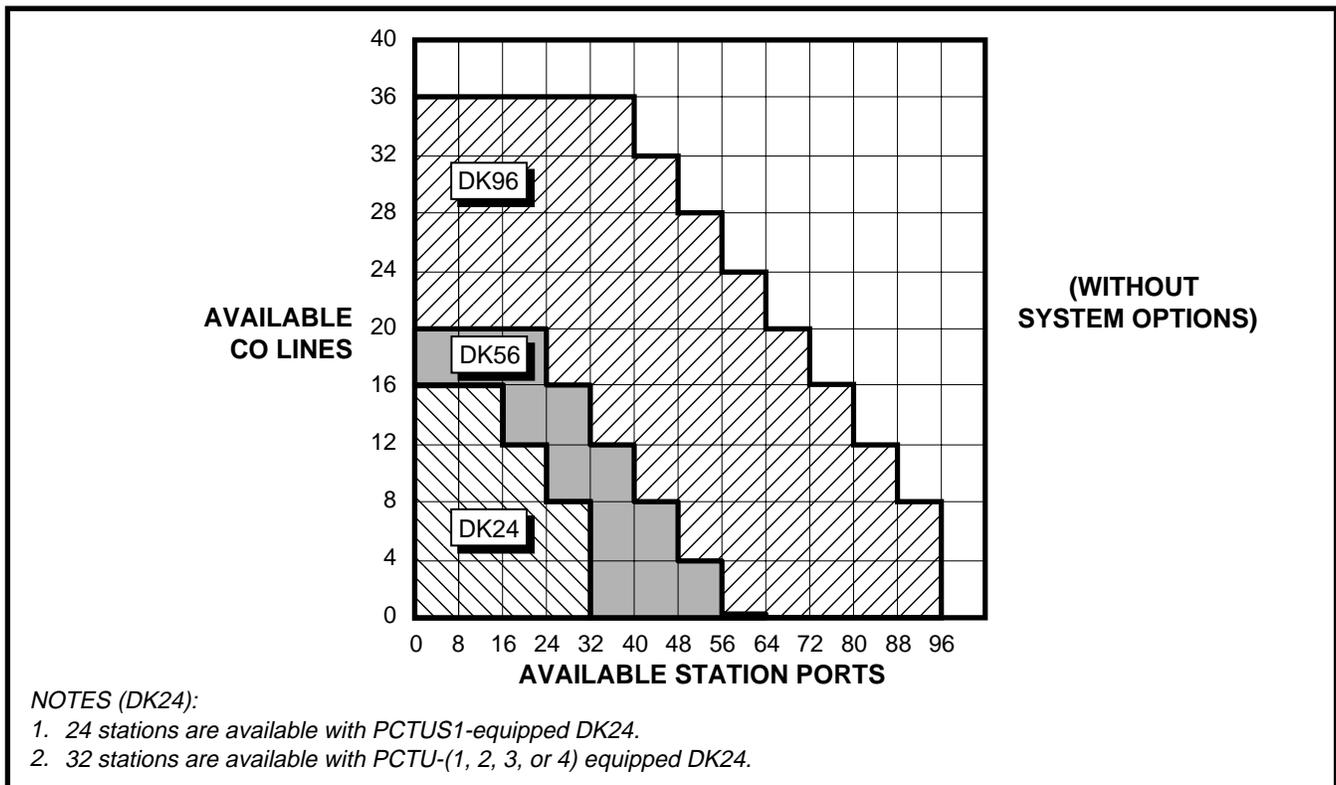

FIGURE 4-1
1.03 Figure 4-1 shows that in most configurations, four CO lines can be traded for eight stations. Conversely, for every eight stations that are given up, four CO lines can be added. The maximum quantities of 16 CO lines for DK24, 20 CO lines for DK56, and 36 CO lines for DK96 are based on squared systems. Software allows 16 CO lines with PCTUS and 36 CO lines with PCTU (1, 2, 3, or 4). Similarly, the 24 station (PCTUS) and 96 station (PCTU1, 2, 3, or 4) limits are also software limitations.